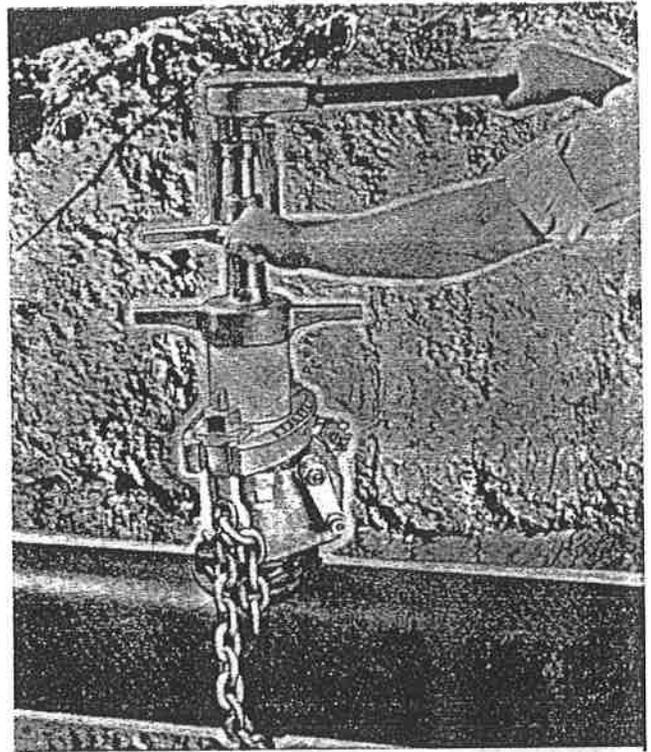

FIGURE 7
2. Drill the main by operating the ratchet handle clockwise and turning the feed nut and yoke clockwise a little at a time. Use a light even feed at the start. If possible pull the ratchet handle in an arc parallel the the axis of the pipe thereby reducing the tendency of the machine to slip on the pipe. It will be found convenient to turn the feed nut as the boring bar is being turned. FIGURE 7.